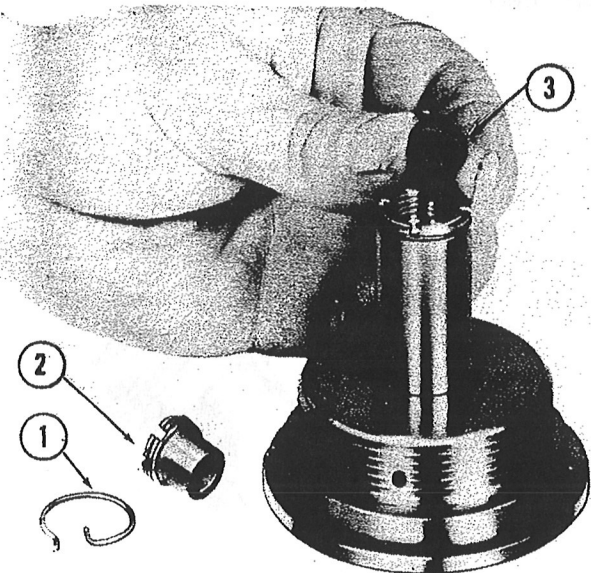

Figure 98—Removing Piston Transfer Packing
6. Remove the piston transfer packing. (See figure 98.)